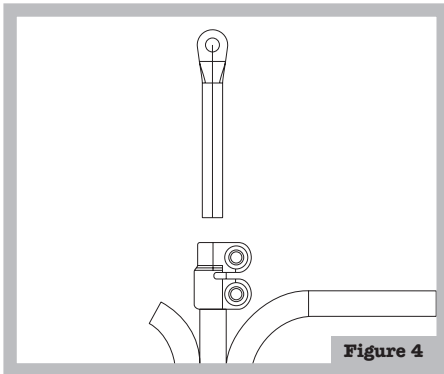
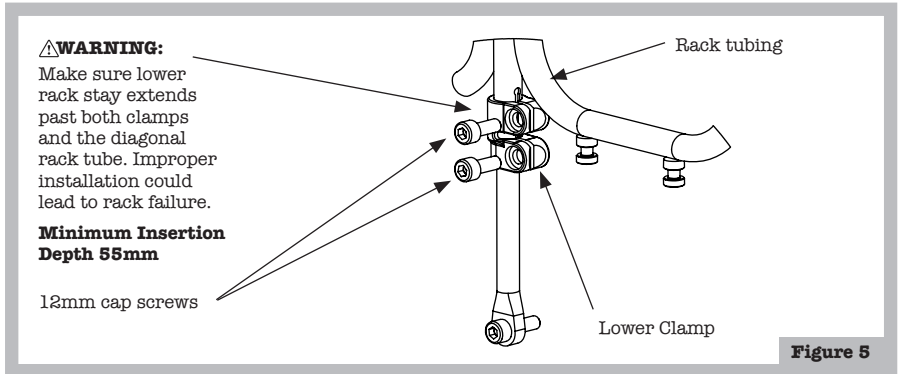

Figure 4
Figure 5
4. Lightly grease the lower rack stays and install them into the clamps (Figure 4). Grease the threads of the 12mm cap screws and use a 4mm hex key to partially thread the screws into the clamps (Figure 5). Don't tighten them yet.